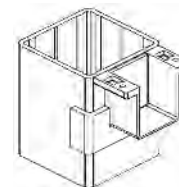

Figure 3. Top-of-Post
3. **Install Brackets:** Align the bracket with the top of the post and center the bracket using the centering template as shown in Figure 3.